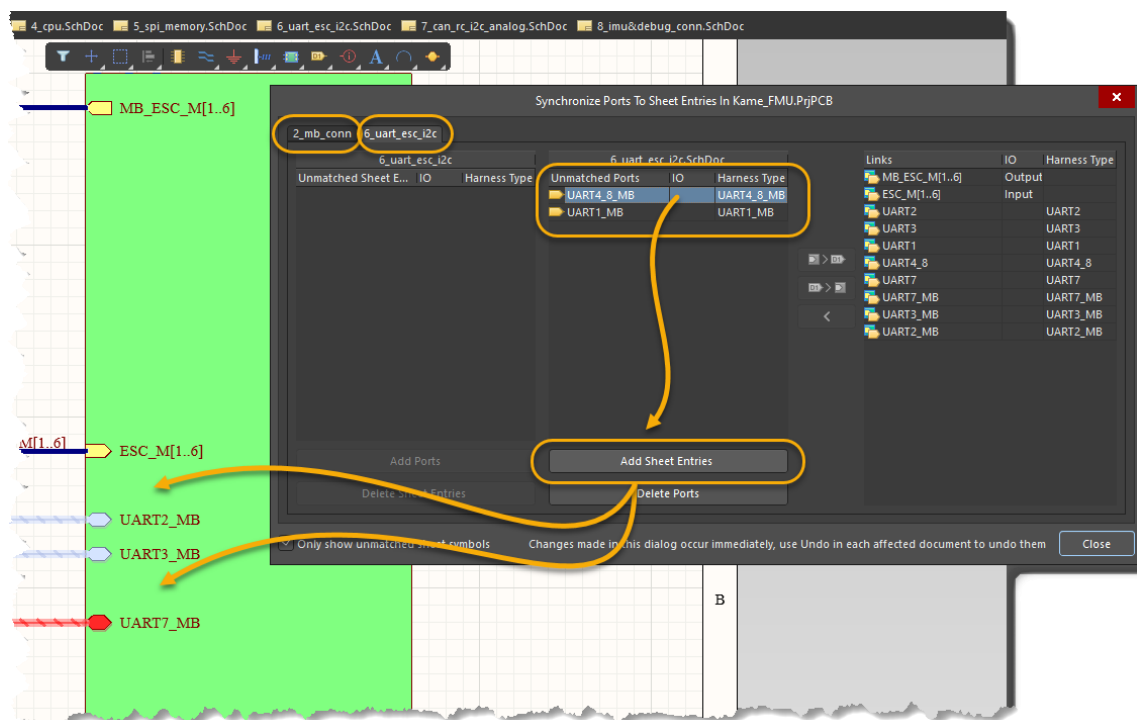

Figure 27. Synchronization for Hierarchical Designs
60. From the **Design** menu, select **Synchronize Sheet Entries and Ports**. We will use the instructions below, as well as Figure 27 for reference.
- a) Near the top-left of the *Synchronize* window, select the 6\_uart\_esc\_i2c tab as shown in Figure 27.
- d) Place the new Sheet Entry below the existing UART3\_MB Sheet Entry on the 6\_uart\_esc\_i2c sheet symbol as shown in Figure 27. Feel free to change your grid using the **G** key to place it.